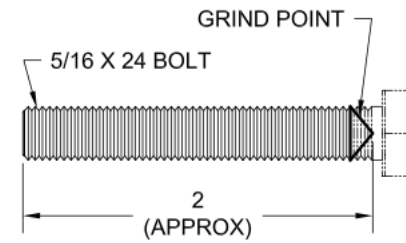

FIGURE 2:
Step 2: Create two "pointers" from hardware store bolts as shown in Figure 2.